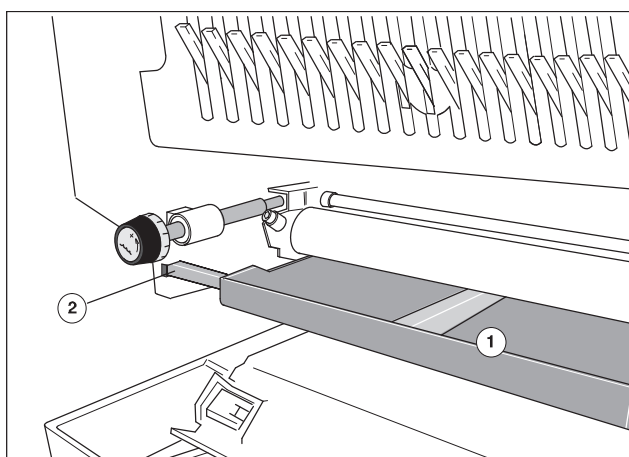

Fig. 8 Dampening solution pan, PU 2
The dampening solution pan (Fig. 8/1) has to be **removed** from the press **before the dampening system can be washed**.
3. Pull the dampening solution pan (Fig. 8/1) out of the press. When doing so, make sure that the pan does not tip towards the press while it is being removed from the support post. The front edge of the pan must not touch the water pan roller.
2. Place the dampening solution pan onto the support bar under the dampening rollers and **carefully** insert the pan horizontally. Here, insert the lateral bolts on the pan into the guide pieces on the side frame (Fig. 8/2).